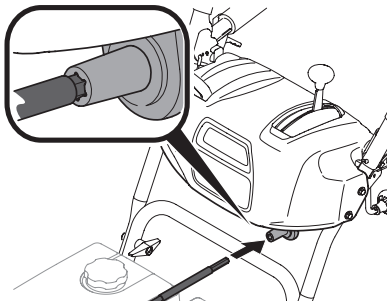

Figure 2-24
- Units with Crank Chute Control - Insert hex end of flex shaft into chute control rod coupling under dash panel. See Figure 2-24.